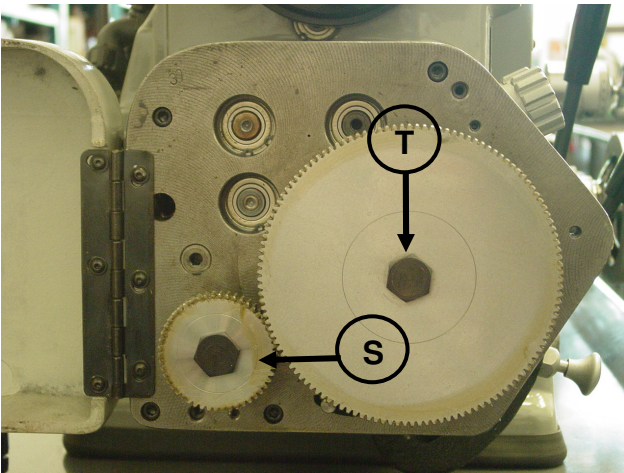
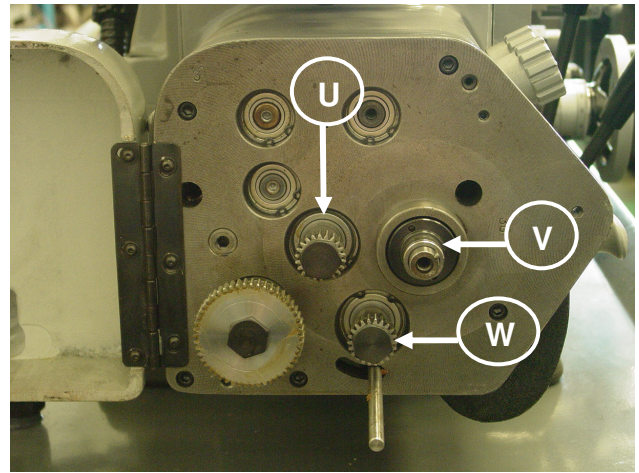
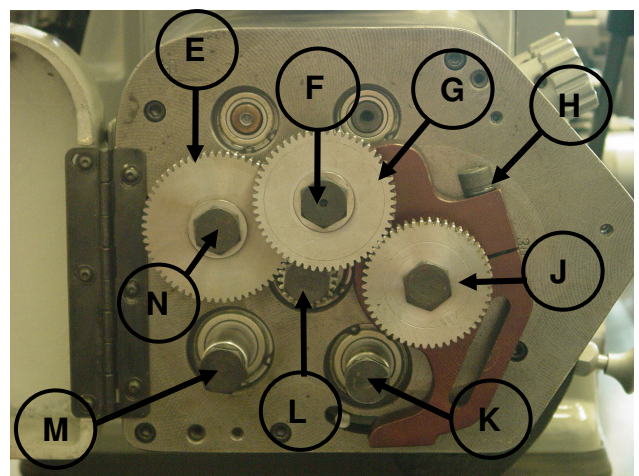

Figure 48-Thread Gearbox
Figure 49-Threading Gearbox
Figure 51-Mounting Change Gear Bracket
4. Loosen knob "S" (Figure 48), open gearbox door and remove 50 tooth gear "S" (Figure 48), and 127 tooth gear "T" (Figure 48). Do not misplace key under 50 tooth gear.
5. If thread chart specifies number of teeth in "First Gear" to be other than 22 teeth, remove gear "U" (Figure 49), and replace with specified gear.
6. Remove tumbler gear "W" (Figure 49).
7. Mount Change gear bracket assembly, Figure 48, on pivot post "V" (Figure 49). Do not tighten bracket bolt "H" (Figure 51), fully.
8. Make certain key is in place and mount "Screw Gear" "J" (Figure 51). Replace bolts "K" (Figure 51) and "M" (Figure 51).
9. Adjust "Second Gear on Stud" "G" (Figure 51), with 0.08"-0.010" backlash between it and "Screw Gear" "J" (Figure 51). Use plastic shim stock to help determine backlash. Tighten bolt "F" (Figure 51).
10. Adjust "Idler Gear" "E" (Figure 51) with 0.003"-0.004" backlash between it and "First Gear on Stud" (behind "Second Gear on Stud" in picture). Tighten bolt "N" (Figure 51).
11. Pivot bracket to obtain 0.003"-0.004" backlash between "First Gear" "L" (Figure 51) and "Idler Gear" "E" (Figure 51). Tighten bracket bolt "H" (Figure 51).
**NOTE : (a) 50 tooth gear "S" (Figure 48), and 127 tooth gear "T" (Figure 48) must be remounted (without bracket) to obtain metric thread pitches through gearbox.**
**(b) When disassembling setup, remount 22 tooth gears "U" (Figure 49) and "W" (Figure 49).**